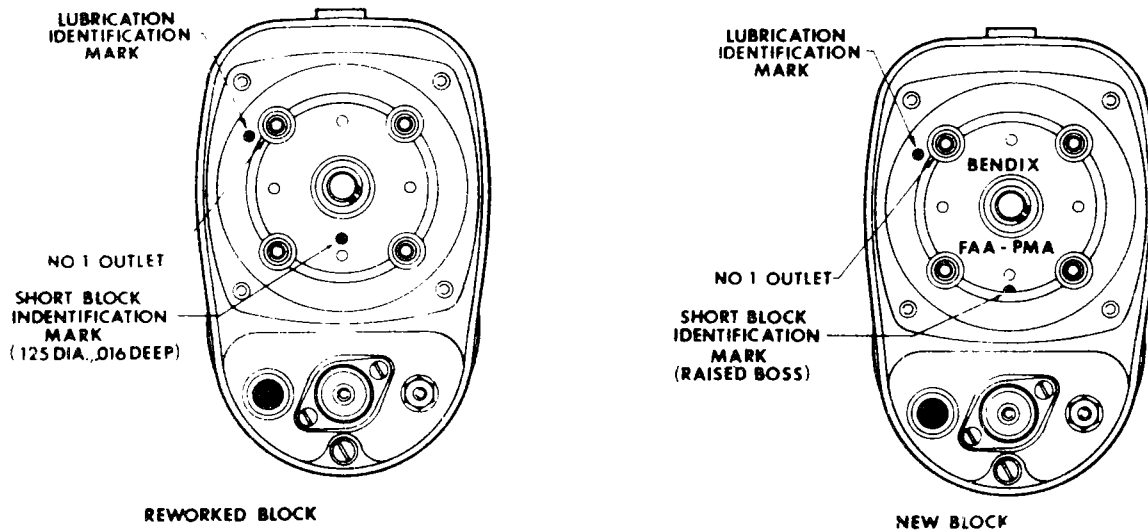

Figure 2
boss between the high tension towers at the six o'clock position and molded in letters as shown in figure 2.
7. Identify reworked blocks by drilling a flat bottomed hole .125" diameter and .016" deep in the six o'clock position as shown in figure 2.
a. If distributor block is not marked with a raised boss or drill point indentation to the left and adjacent to the No. 1 high tension tower (see figure 2), remove old lubricant from bushing as follows.
(1) Place distributor block, high tension towers up, on a piece of absorbent material, such as cardboard, in a 250°F oven for 4 hours. This should cause impregnating oil to appear on the surface of the bushing and on the absorbent material.
(2) Remove block from oven and using a clean dry cloth, immediately wipe all oil possible from inside diameter of bushing. It may be necessary to do this several times as part cools.
(3) Identify distributor block by drilling flat bottomed indentation 0.125 inch diameter and 0.016 inch deep located as shown in figure 2.